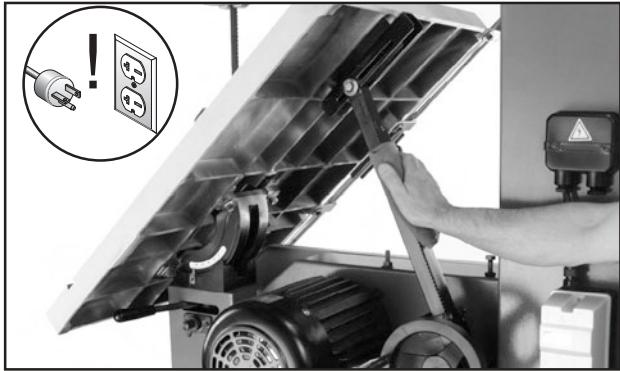

Figure 81. Example of lubricating table tilt rack and pinion assembly.
3. Move the table up to its maximum 45° angle and wipe (Figure 81) off all existing grease and sawdust buildup from the rack.